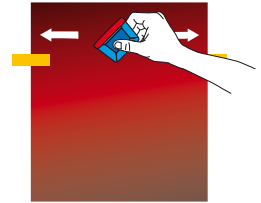

Figure 05
- › Start applying the film with a squeegee (previously covered with felt), by forming a 30° angle with the substrate and working from the centre towards the edges. (FIG. 05)